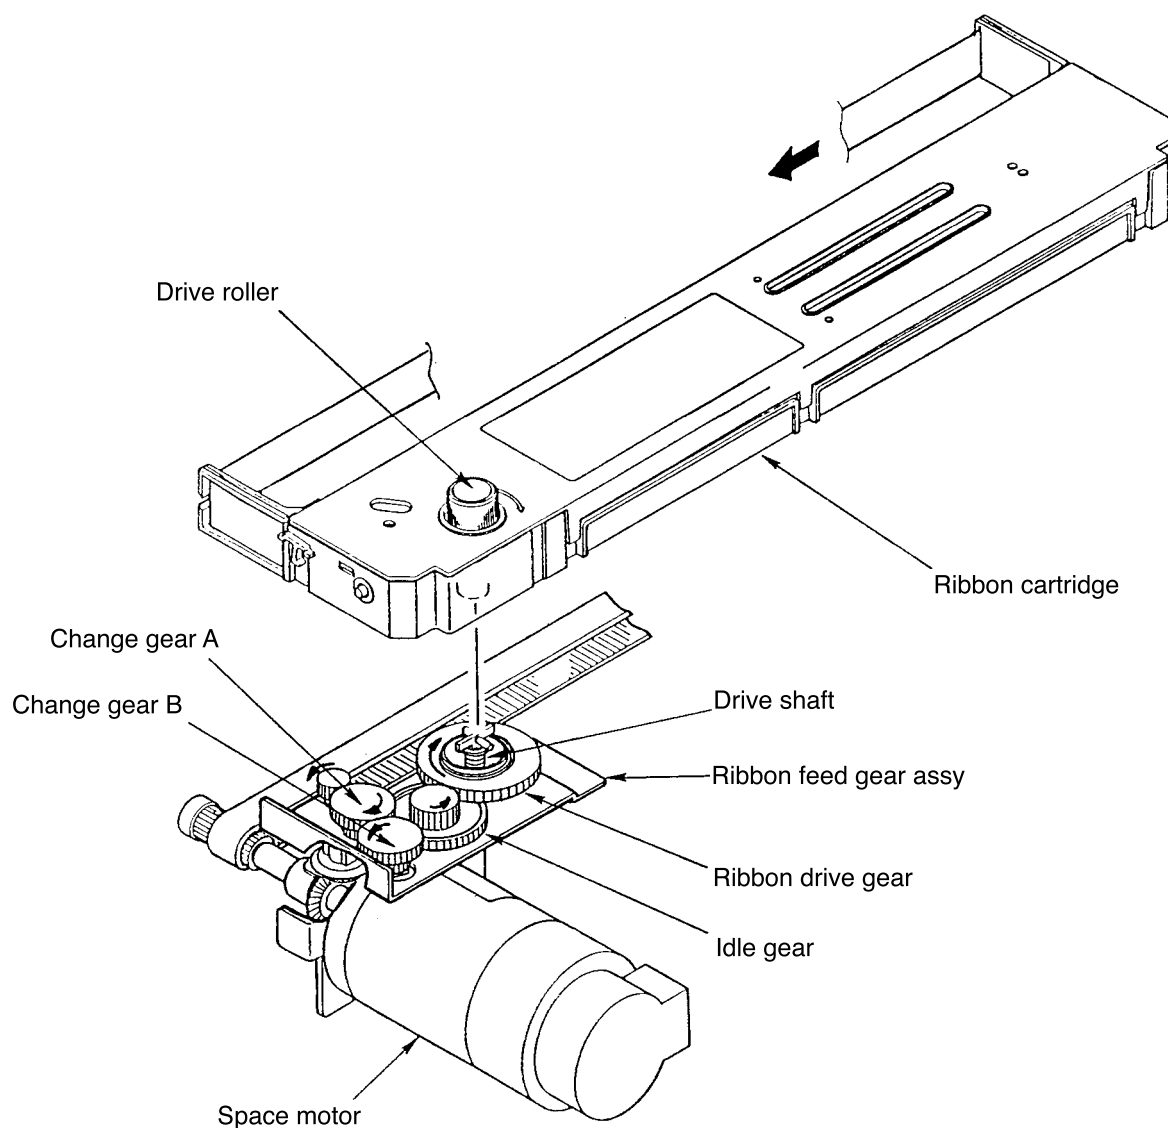

Figure 2.4 Ribbon feed mechanism
2.2.5 Ribbon feed mechanism and operation (See Figure 2.4)